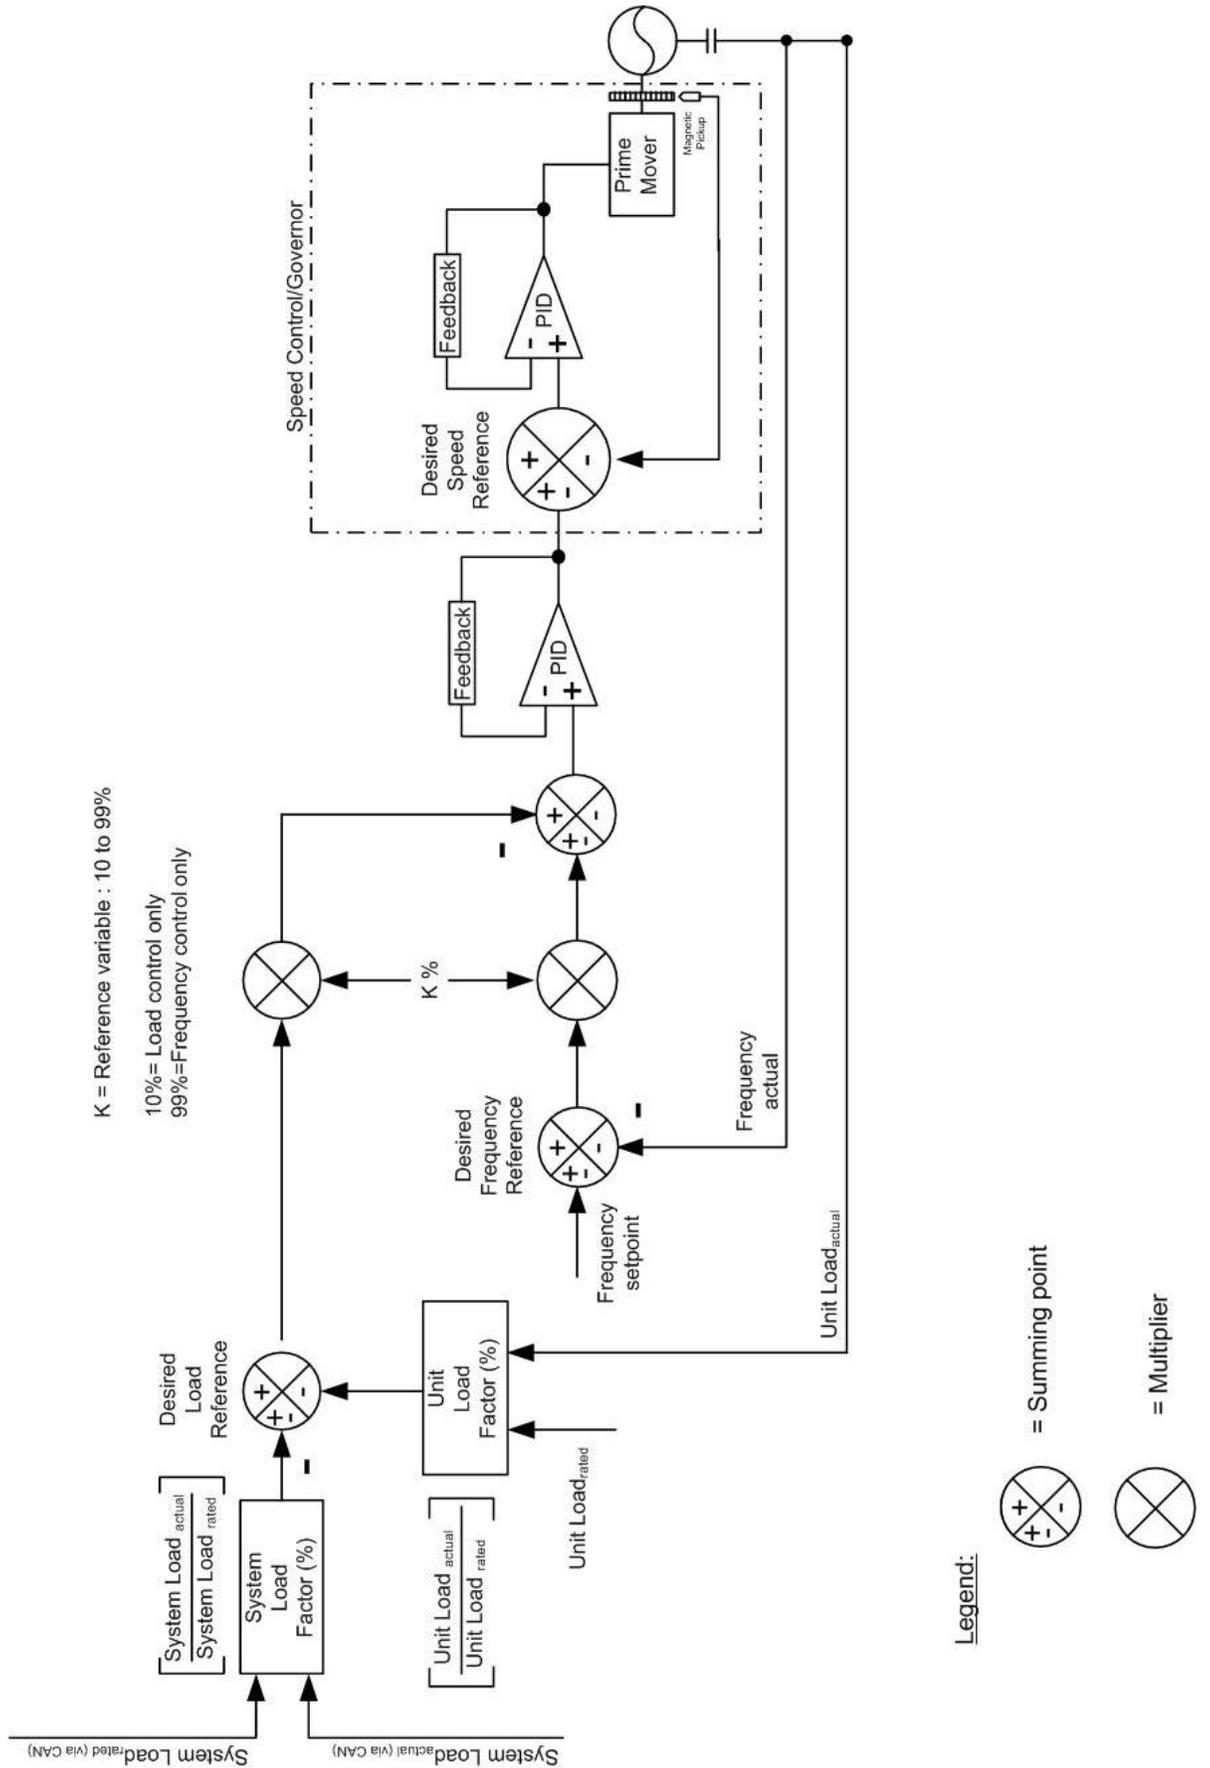

Figure 3-4: CAN bus load/var sharing, diagram
**Diagram of load/var sharing via the CAN bus** (refer to Figure 3-4 on page 53): The parameter "Active load sharing factor" determines if and how a generator performs real power or frequency control when paralleled with other generators in an isolated operation. This parameter is defined as a percentage. In the figure below 10 % means increased real power control and 99 % increased frequency control. This parameter must be configured individually for each generator.